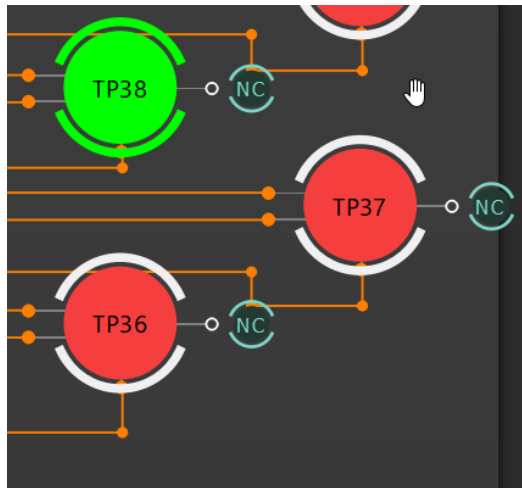

Figure 44. TP Map
- j. *TP Map* – The Test Points of each pin will be shown next to their respective pin (Figure 44).